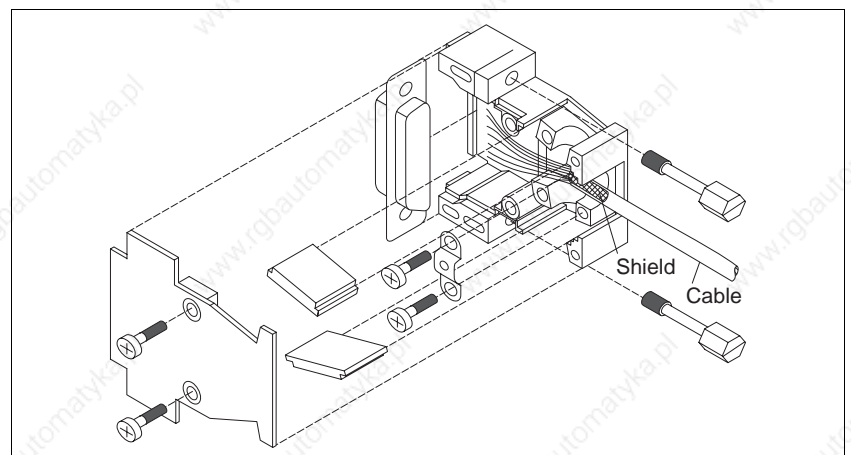

Fig. 2-18 Interface connector assembly
3. Insert two hexagon head bolts (fig. 2-18) into the connector shell.
8. Fasten the connector to the front panel (item 53) with screws.